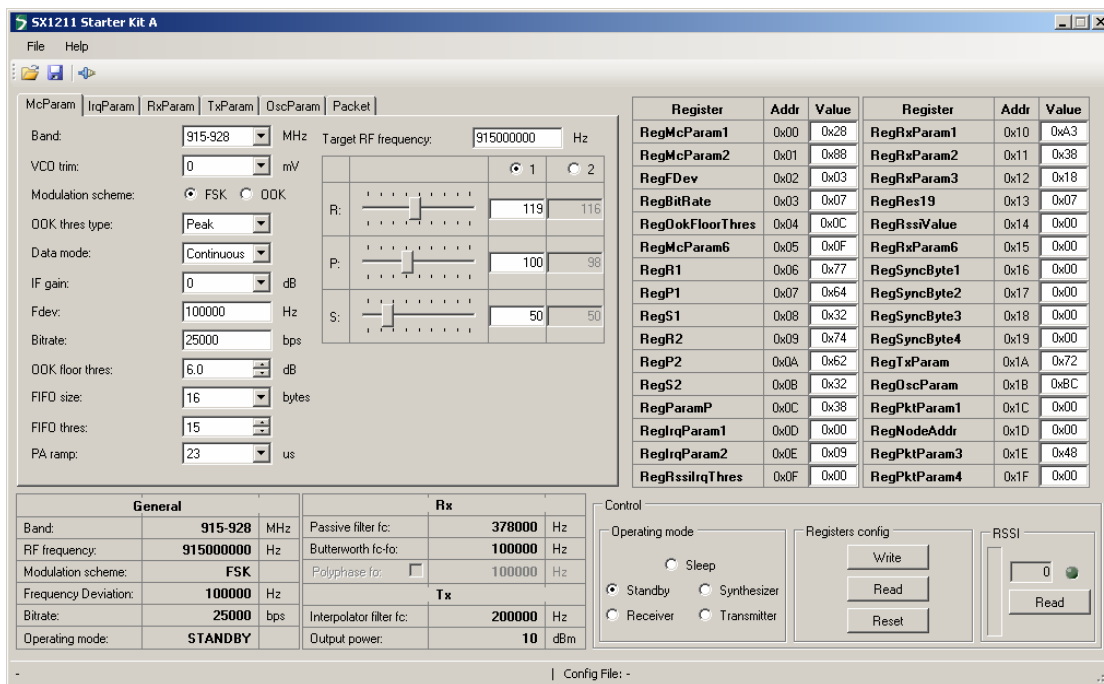

Figure 4. SX1211 User Interface, Default Settings
5. Once connected the SX1211SKA shows the default configuration of the SX1211 register settings upon power-up (as shown in Figure 4).